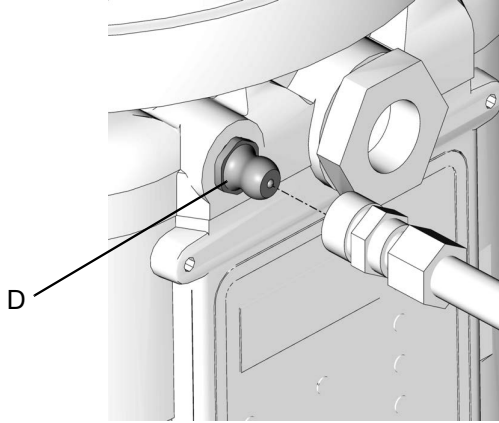

FIG. 19
<ul style="list-style-type: none"> • Always clean the fitting (D) (FIG. 19) with a clean dry cloth prior to filling the reservoir. Dirt and/or debris can damage the pump and/or the lubrication system. • When changing greases, always use compatible fluids or greases. • Use care when filling the reservoir with a pneumatic or an electric transfer pump, to not pressurize and break the reservoir.
1. Connect the fill hose to the Zerk Inlet Fill Fitting (FIG. 19).
1. Connect the fill hose to the inlet fitting (FIG. 19).